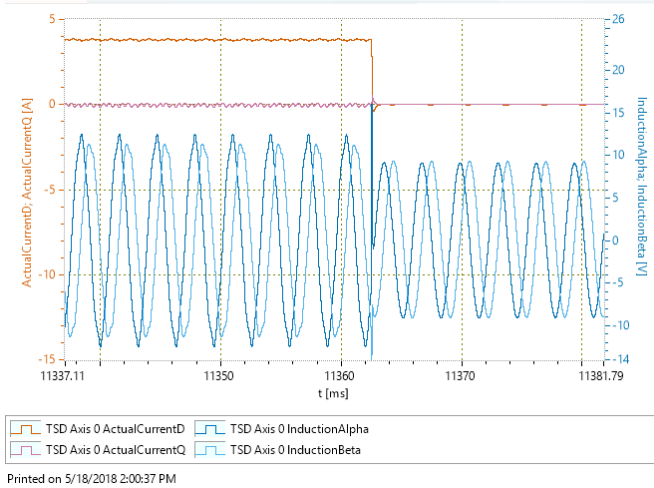

Figure 5: Estimated induced voltage before optimization of induction L ($L=0$).
6. Now the values of `InductionAlpha` and `InductionBeta` can be compared at the transition from synchronous mode to free-run. If the parameter L is set correctly, the amplitudes and phases of both signals should be continuous at the transition (without a step). If the amplitude gets smaller abruptly at the transition to free-run, L has to be increased and vice versa (see Figure 5 and 6).